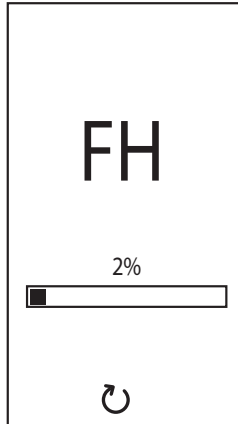

fig. 8- Vent with fan on
- For the following 20 seconds the display will show **FH** which identifies the heating system air venting cycle with the fan running (fig. 8).